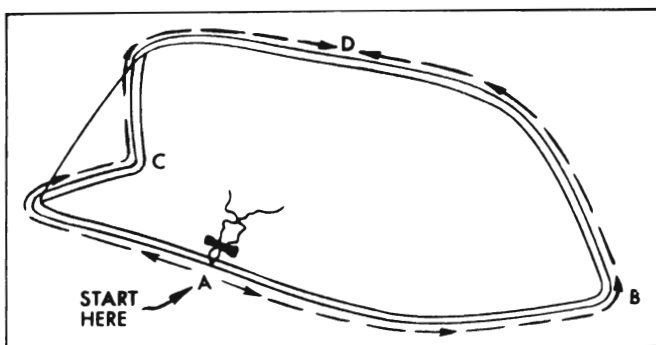

Figure 13-176—Windshield Glass Installation
3. Insert strong cord in pinchweld cavity of rubber channel completely around windshield. Form loop with cord at bottom center of glass and tape loop to inside of glass. See figure 13-176.
helper inside pull cord slowly in following sequence to seat lip of channel over pinchweld. (Figure 13-176.)